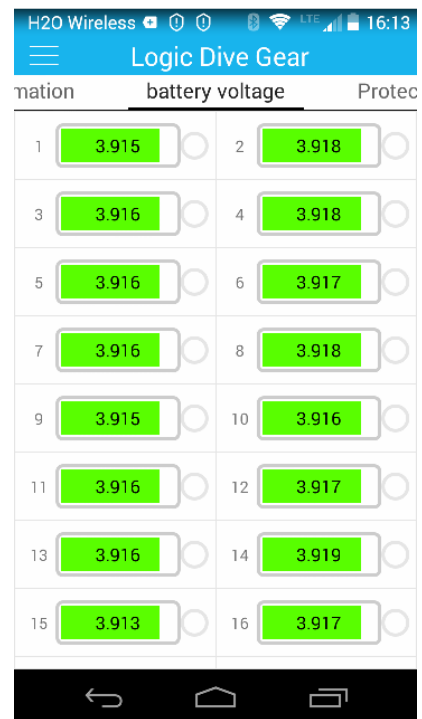

Figure 15
7. Verify battery operation with Bluetooth app on phone. Ensure that the voltage for each set of 18 cells is being read and that the voltages are close to the same. They should be between 3.00V and 4.15V, and within approximately .030 volts of each other. (Figure 15) If voltages are not correct, disconnect the small black connectors in **REVERSE NUMERICAL ORDER - 9,8,7,6,5,4,3,2,1** Check voltages as you disconnect to attempt to isolate a connector that may have not been properly aligned when connected.